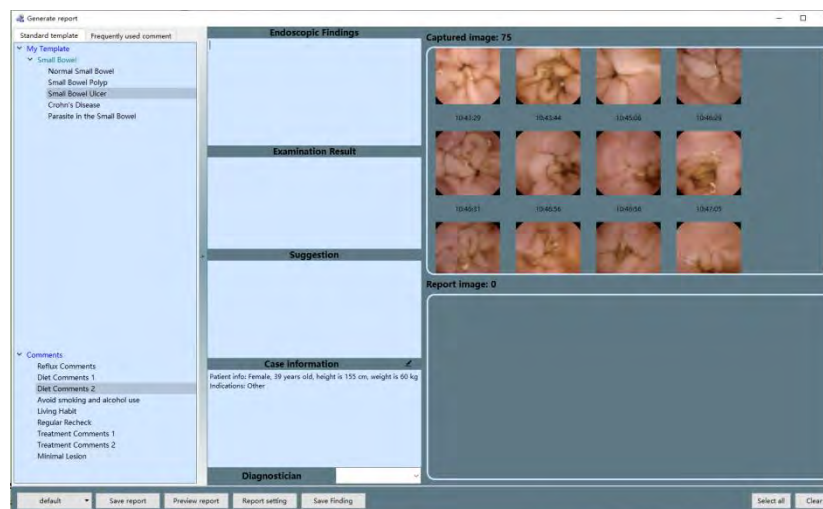

Figure 4-52: Report Generation Interface
1. In the main software interface, click  to access the report generation interface (Figure 4-52).